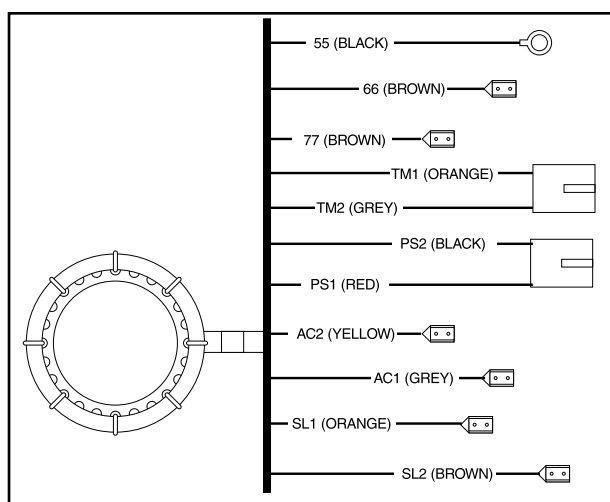
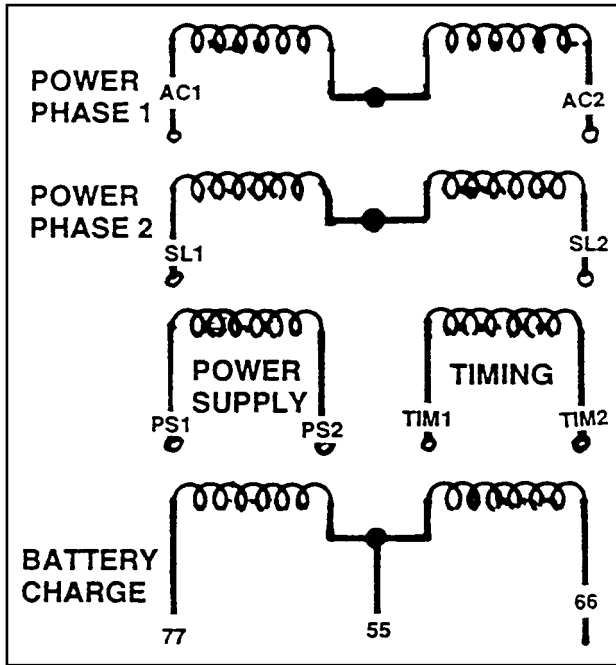

Figure 4. Stator Pictorial View
Figure 5. Schematic- Stator Windings
The 2-phase Stator is made up of six (6) windings, with leads brought out as shown in figure 4. Figure 5 is a schematic representation of each stator winding. Note that there are two (2) power phase windings (Leads AC1, AC2, SL1 and SL2); a timing winding (Leads TIM1 and TIM2); a power supply winding (Leads PSI, PS2); and a dual battery charge winding (Leads 55, 66, 77).